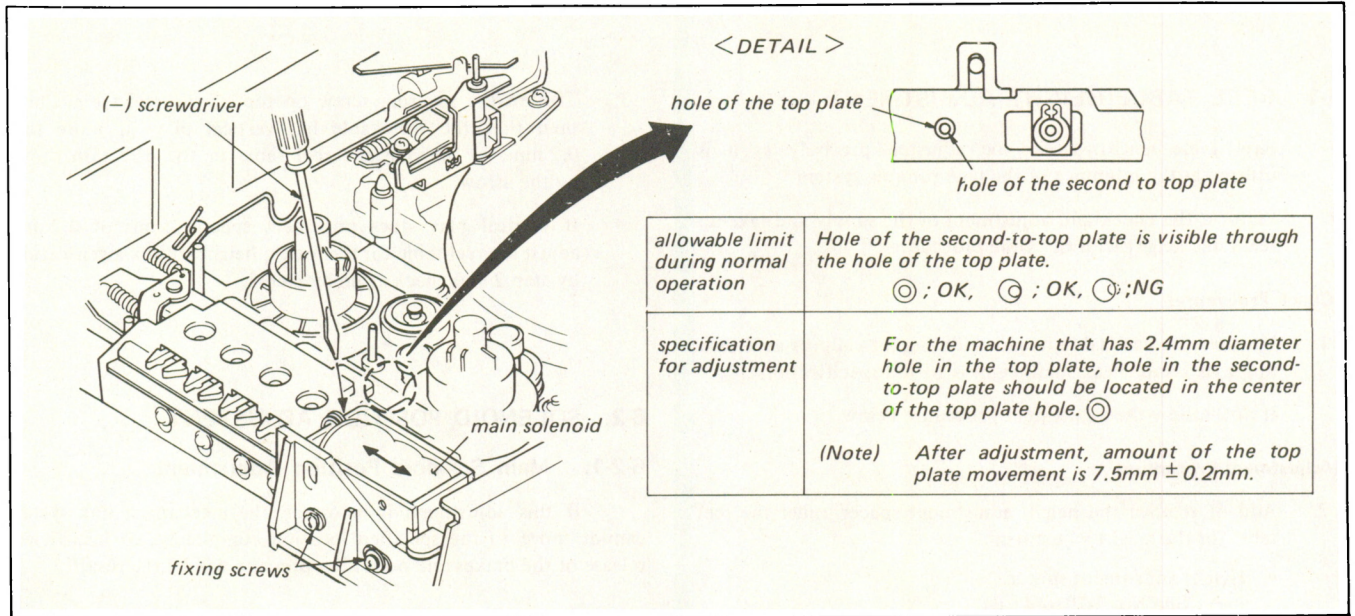

Fig. 6-2. Main solenoid position adj. (REW mode without a cassette)
2. Press the REW button to set up the REWIND mode and confirm then that the position of the hole on the function block shown in Fig. 6-2 satisfies the specification. If not, perform the adjustment by the following procedure.
4. Set up the REWIND mode and adjust the main solenoid position for satisfying the specification shown in Fig. 6-2.